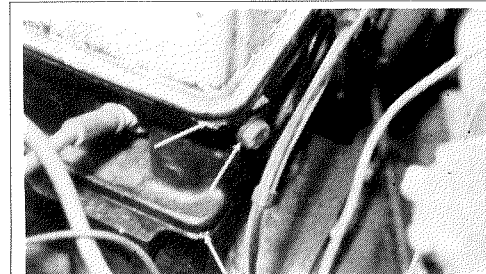

Fig.9. Possible sources of oil leaks at rear of engine:- Rocker feed blanking bolt (note cooper washer) Rocker cover gasket head gasket
- c. **Rocker Feed Blanking Bolt** If the copper washer behind the bolt shown in Fig. 9 has not been replaced/retightened following a rebuild, then an oil leak will occur, easily confused with a leaky rocker cover gasket.